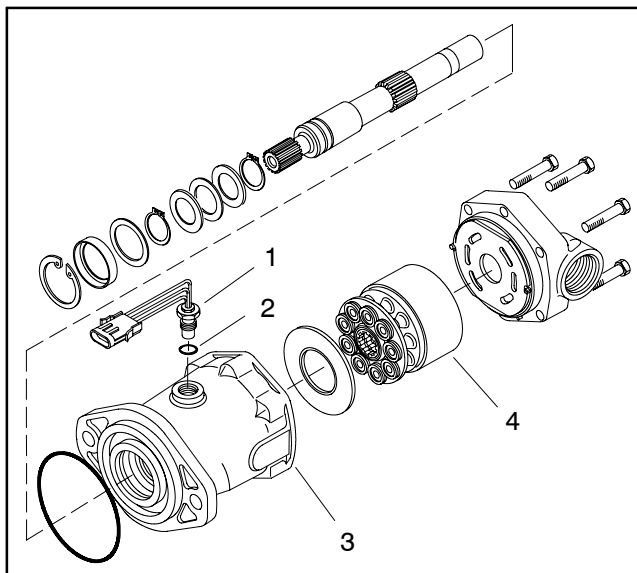

Figure 21
The traction speed sensor is attached to the right side rear wheel motor (Fig. 21). The sensor provides ground speed information for two (2) options: the Pro Control Electronics and the speedometer kit. It uses a magnetically based, Hall Effect integrated circuit. As the piston group in the wheel motor turns, the sensor accurately senses the movement of the pistons passing the sensor. The red connector wire (connector terminal A) is the positive lead, the black wire (terminal C) is the ground lead, and the white wire (terminal B) is the signal output.